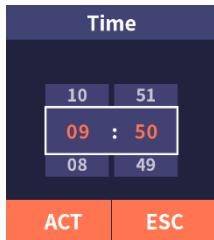

Figure 4.3
(2) Click "Time" to open the time setting interface (as shown in Figure 4.3), then scroll up and down to set the correct time. Click "ACT" to save and exit, or click "ESC" to exit without saving.